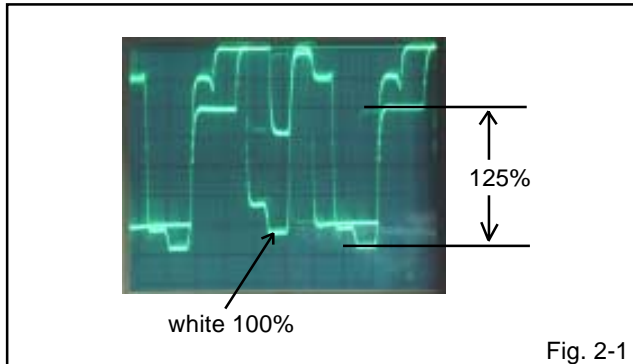

Fig. 2-1
6. Press the VOL. UP/DOWN button on the remote control until the red color level is adjusted to $125 \pm 5\%$ of the white level. (**Refer to Fig. 2-1**)